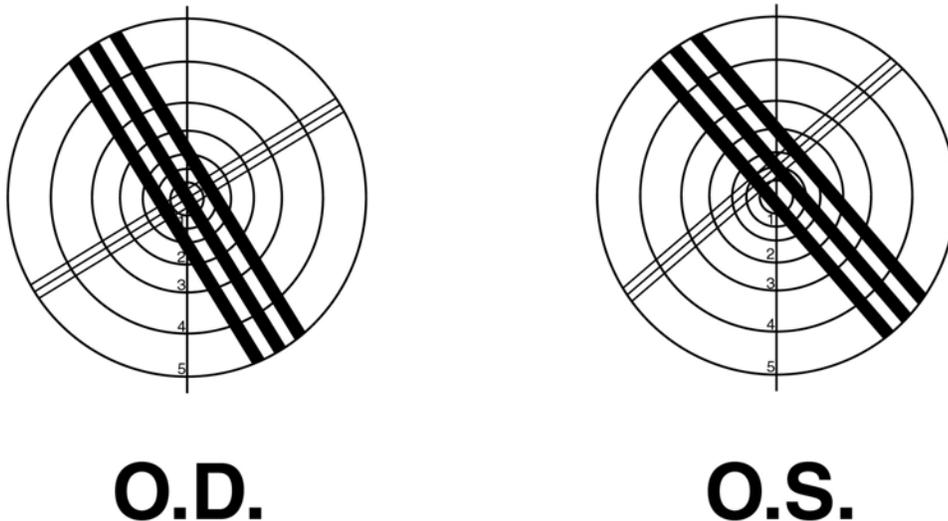

FIGURE 15
8. For the example of Figure 15, the target has first been centered on the reticle for the right lens. The left lens is then moved into position on the stop, without moving the glasses vertically. Since a vertical target deviation is present, vertical prism is present in the glasses, 1^Δ BU OS or equivalently, 1^Δ BD OD.